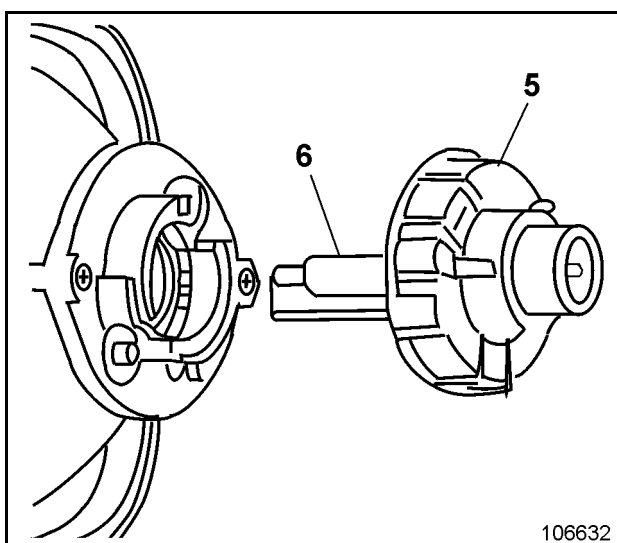

Fig. 3-73
- Turn lampholder (5, Fig. 3-73) counter-clockwise and pull it out of the reflector together with lamp (6).
- Remove the defective Xenon lamp (6) from the lampholder and replace by a new one. Do not touch the glass bulb of the lamp.